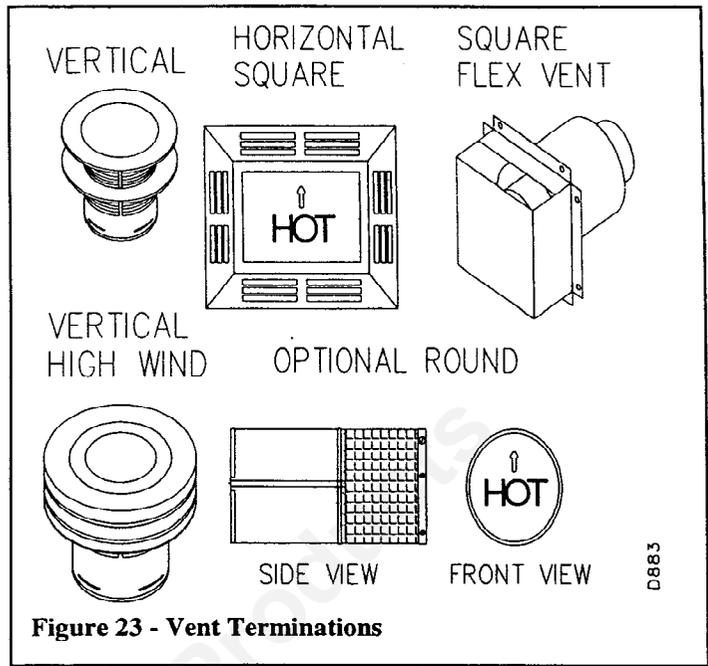

Figure 23 - Vent Terminations
4. Three types of vent caps are available for horizontal terminations. Two square terminations are available; one for rigid pipe applications and one for flex pipe applications. A round vent termination with a slip fit connection is also provided for rigid pipe applications, when a wall thickness or off spacing must be accommodated. See figure 23 on page 10. Each may be purchased as a kit, which includes a 45° elbow and a firestop that accommodates a square or round termination. When installing a square termination, apply a bead of non-hardening mastic around the outside edge of the vent cap. Position the square or the round vent cap in the center of the 7 1/2" hole on the exterior wall or in a firestop when installed over a 9 1/2" square cutout. Make certain that the arrow on the vent cap is pointing up after making the final connection. If installing the square flex vent termination the square open must be pointing up. The firestop must be used to insure that the proper clearance of 1" to combustibles is maintained. If using the square vent attach the vent cap with four wood screws. If installing the round vent cap use the firestop provided with the installation kit to accommodate the square hole and then seal the remaining edge with mastic. Note: Replace the wood screws with the appropriate type of removable fasteners for stucco, brick, concrete or other types of siding.